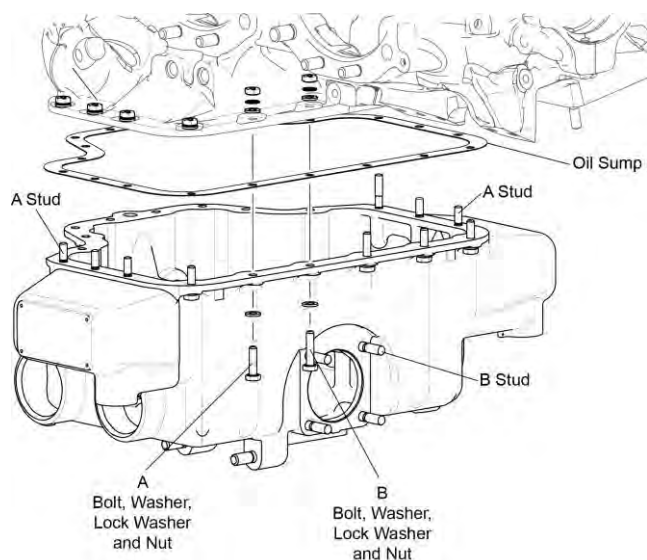

Figure 9
- C. Remove the six nuts, lock washers, and washers from the six A Studs (Figure 9) that attach the oil sump to the crankcase. Discard the lock washers.
- E. While one person holds the oil sump, remove the two B Bolts, along with four washers, and two lock washers from the locations shown in Figure 9 on the oil sump.
- E. Install a new oil sump gasket in either the oil sump flange (Figures 9 and 12) or on the mating flange of the crankcase.
- G. Examine all of the oil sump fasteners identified as A and B, in Figure 9, that were to be kept separate when the oil sump was removed. Make sure the bolts, studs, and nuts are not damaged are intact and have no stripped threads. Replace any damaged or stripped fastener.
- H. Install the A Studs on the oil sump in the locations shown in Figure 9.
- I. Install the two B Bolts each with a nut, two washers and a new lock washer at the location shown in Figure 9. Torque the nuts to 96 in.-lb. (11 Nm).
- J. Install the 12 A Bolts, each with a nut, two washers and new lock washer as shown in Figure 9. Torque the nuts to 96 in.-lb. (11 Nm).